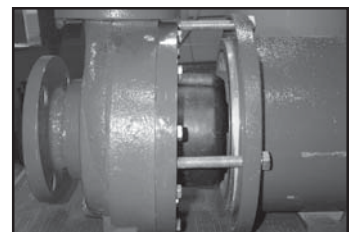

figure 28
6. Using a 3/4" socket, turn the (3) jackscrews (item 14) clockwise until the heads touch the motor adapter (item 9).
7. Carefully slide the wet end towards the motor adapter until it touches the jackscrews (there will be some magnetic attraction) (see figure 28).
9. Bolt the wet end to the motor adapter by reinstalling the (4) 1/2" hex head cap screws (item 15) and torque evenly to 75 ft-lbs (102 N-m).